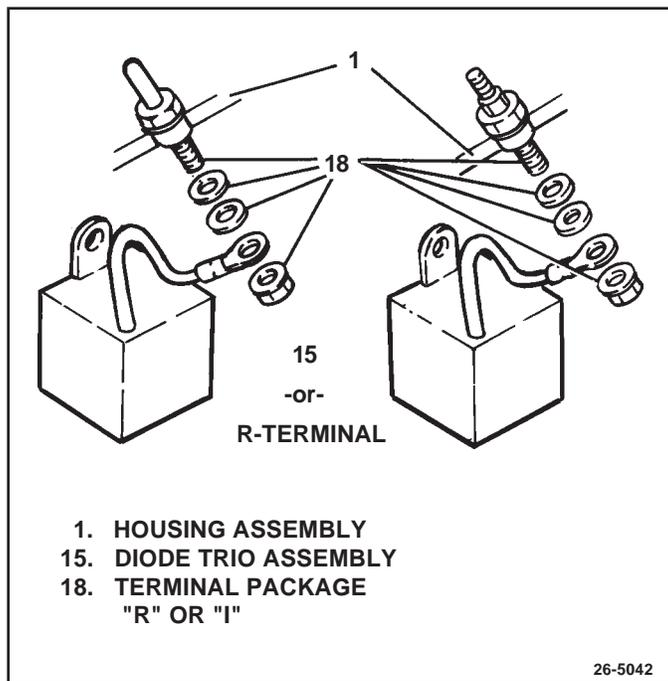

Figure 41. Connecting "R" Terminal
21. Place "R" or "I" terminal (18) into hole in rectifier housing (1). Place insulating washer and plain washer onto stud inside housing. (See Fig. 41) If alternator uses "R" terminal, place yellow "R" terminal lead from diode trio assembly (15) onto inside terminal stud (18). If alternator has "I" terminal, install indicator light lead assembly onto inside terminal stud. Install inside terminal nut. Hold external hex portion of terminal as anti-turn.